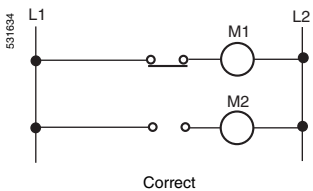

Figure 8—Contacts connected to same polarity. Line to line short cannot occur when contacts operate
- The single pole, double throw contacts of a snap switch used in a limit switch should not be used on opposite polarities. When load M1 is connected between the contact and line L2, and load M2 is connected between the other contact and line L1 (figure 7), a line-to-line short (bold line) can occur through the arc, which may be drawn as the contacts operate. When contacts are connected to the same polarity (figure 8), this line-to-line short cannot occur.